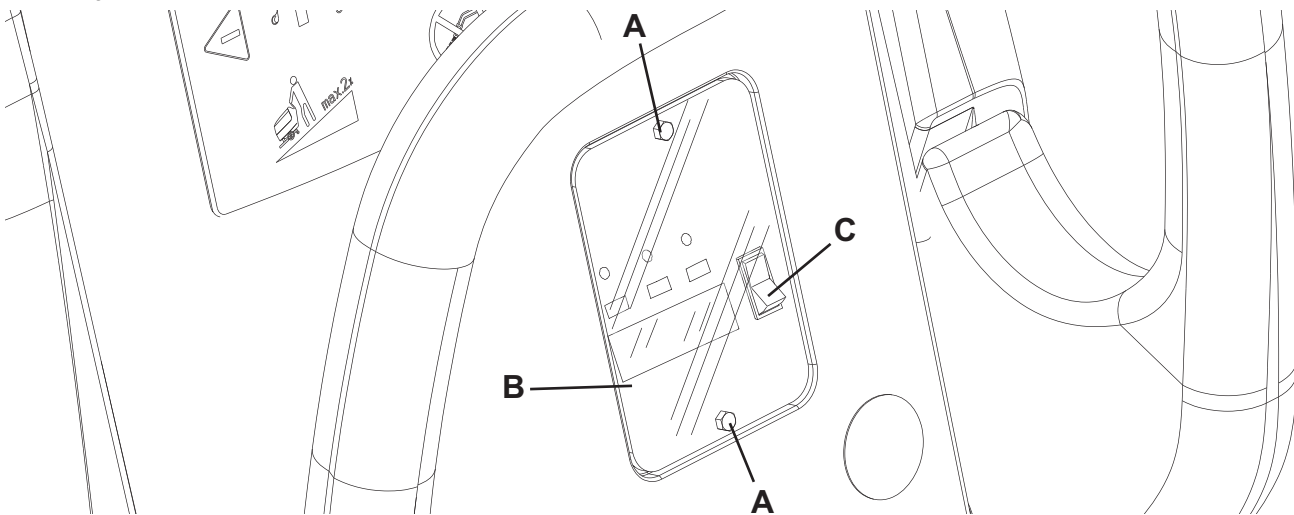

Figure 1
- Remove the battery charger data inspection window screws (A, Fig. 1).
- Remove the window (B).
- Turn the battery charger selector (C) to WET position for lead batteries, or to GEL position for gel batteries.
- Install the window (B) and tighten the screws (A).